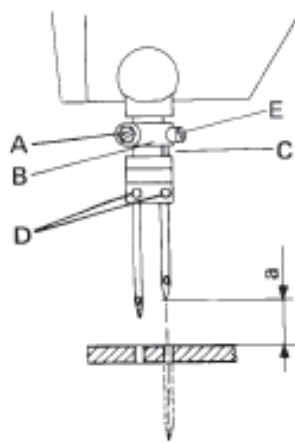

FIG. 1
1. Positioning Of The Needles (Fig.1)
1. Posicion De Las Agujas (Fig. 1)